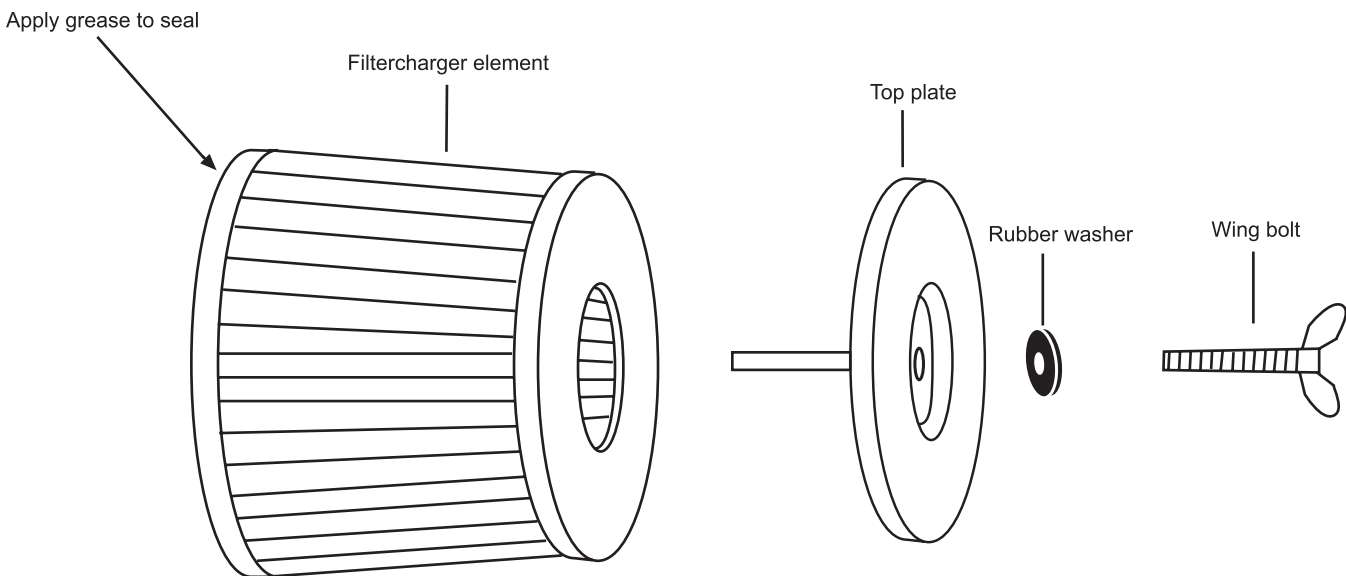

Fig. 1
2. Apply a thin layer of the provided K&N Sealing Grease to the sealing surface of the K&N Filtercharger®. (Fig. 1)